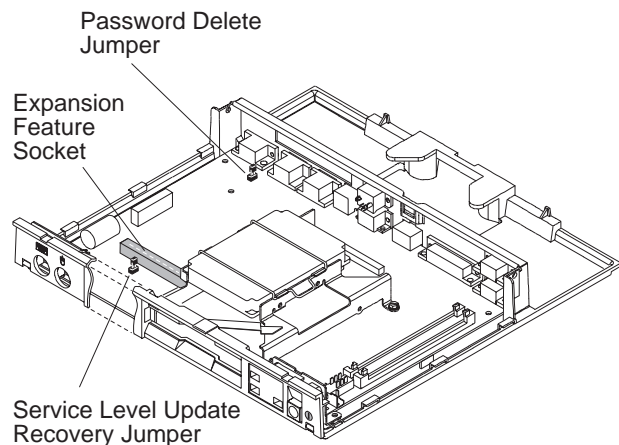

Figure 3-2. Service Level Update Recovery Jumper and Password Jumper
- 3 See Figure 3-2 for the location of the Service Level Update Recovery Jumper.
- 4 See Figure 3-2 for the location of the Password Delete Jumper.